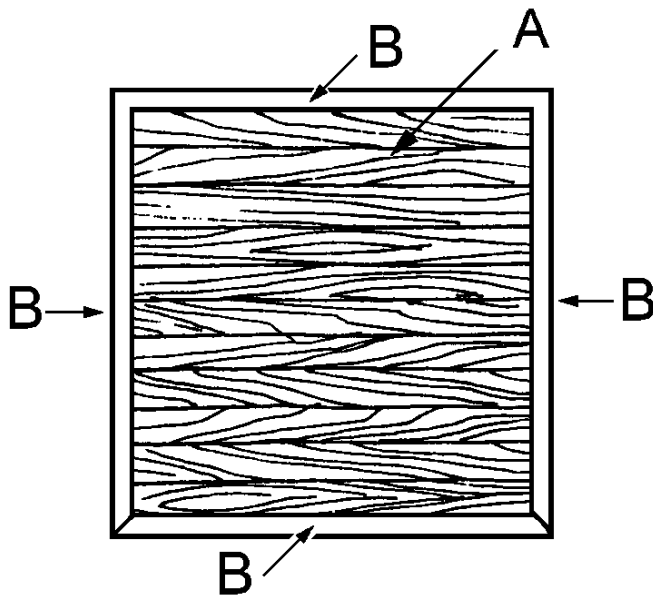

Figure 1
2. Place the two trimmed laminated sections 46" sides together, on a level surface. Wipe glue on the meeting edges, and clamp them together securely with two or three bar clamps for at least 24 hours. The result is a table top (A) that now measures 46" square.
3. Cut four table top trim pieces (B) from 1 x 4 pine, each 50" long.
4. Rip each trim piece (B) to 2" in width. For assistance with ripping a piece of wood, refer to the Tips and Techniques" section.
5. The next step is to frame the table top (A) with the 2"-wide trim pieces (B), as shown in *Figure 1*. First, setting each piece on its face, miter both ends of all four trim pieces (B) at a 45-degree angle. Then wipe glue on the mitered ends and meeting edges, and clamp the trim pieces (B) to the table top (A) using bar clamps. Leave the assembly undisturbed for at least 24 hours. The framed top now measures 50" square.